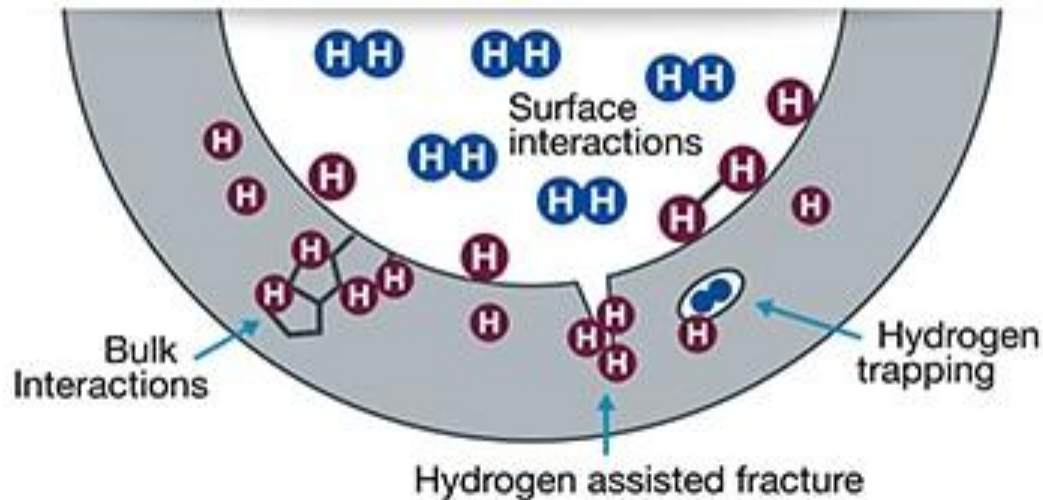

Figure 2: Hydrogen molecules can dissociate to atomic hydrogen and penetrate metals.
- Hydrogen molecules (blue icons in Figure 2) can dissociate to atomic hydrogen (purple icons in Figure 2) and penetrate a metal.